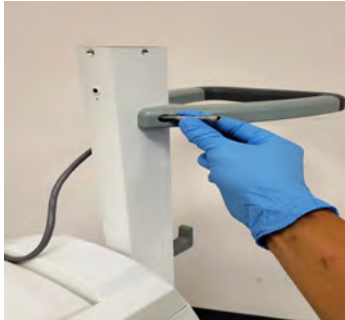

Figure 3.2. Use the long bolt and center screw to attach the handle
1. Attach the handle to the mast using the long bolt and the short screw provided. Use a 3/16-inch Allen wrench to tighten the bolt securely. Use a 5/32-inch Allen wrench to tighten the screw (see Figure 3.2). Do not lift the console by the handle.